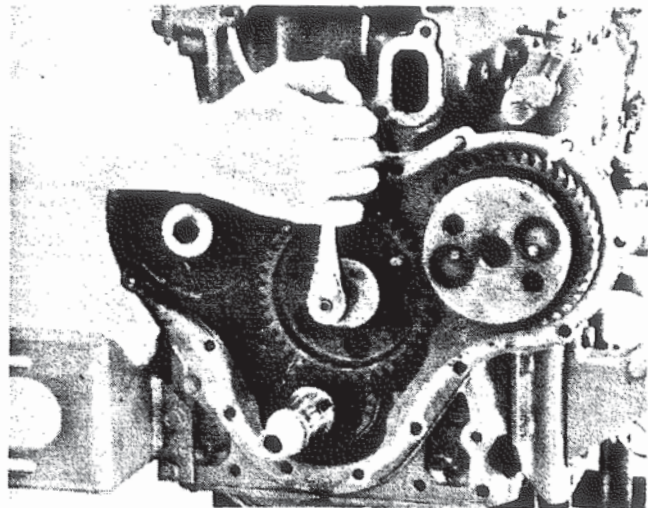

Figure 67. Installing Timing Gears.
F. Refer to Figure 67 and install idler gear. Secure with thrust plate.